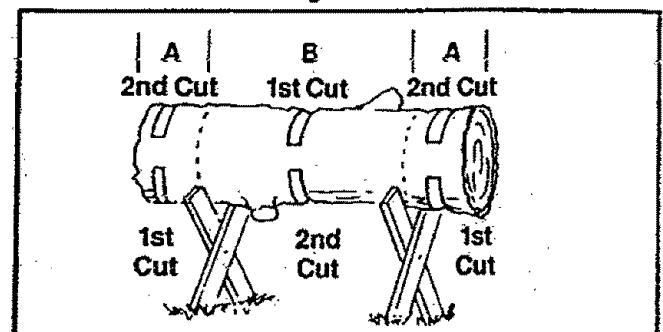

Figure 27
5. BUCKING — USING A STAND (Figure 27):